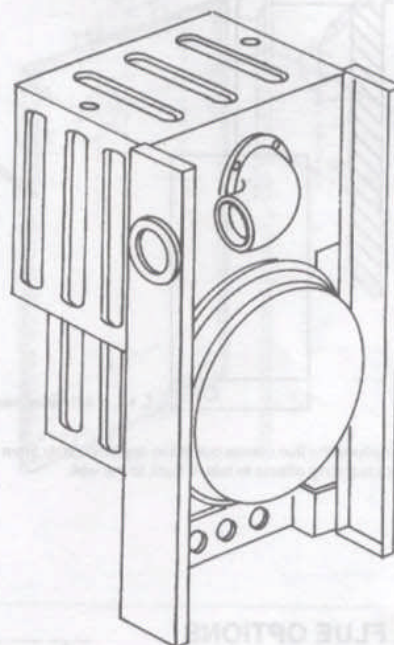

Fig. 42
5.7.4 Remove left or right flue duct door cover as appropriate (Fig. 42).